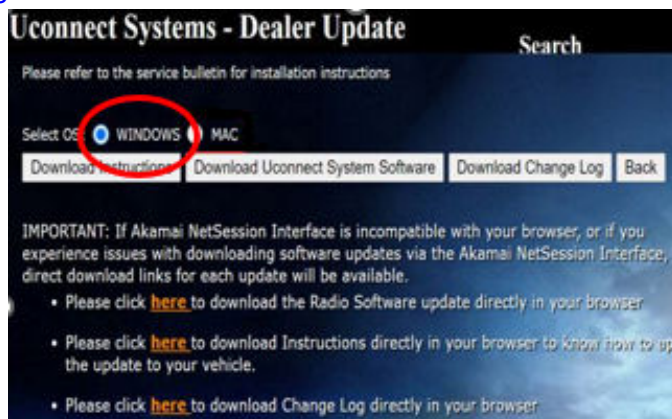

Fig. 8
15. Download the software update file to your local PC's desktop. Make sure to select the “WINDOWS” radial button for all downloads Fig. 8.